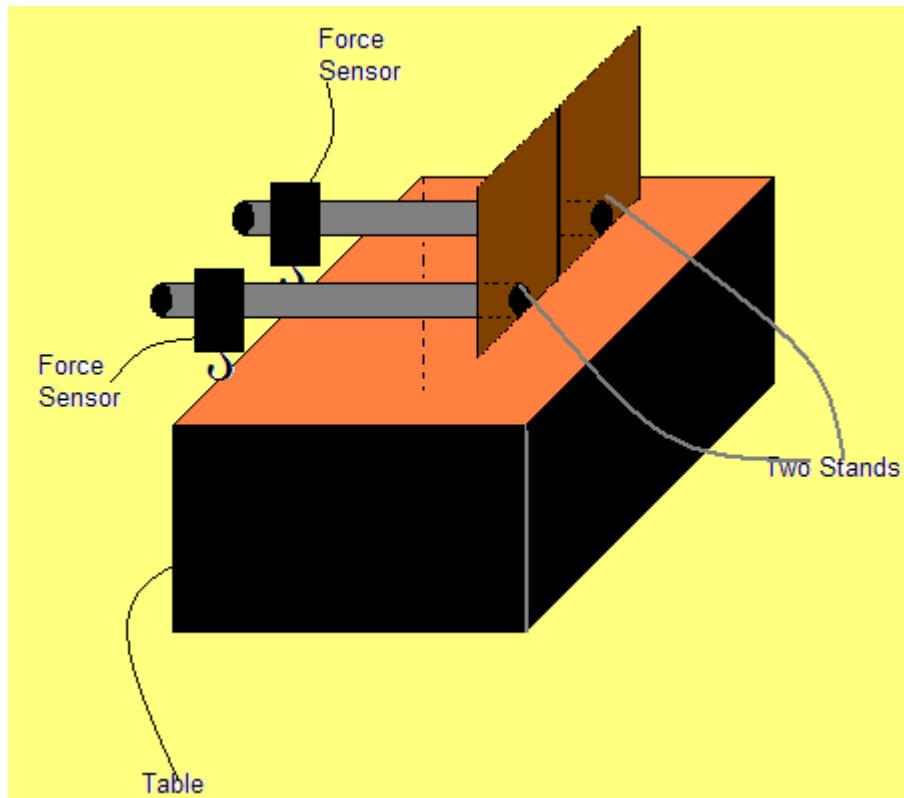

Figure 4
- 1) Set up the two stands and the two force sensors as shown in figure 4. Make sure that the two stands are fixed firmly.